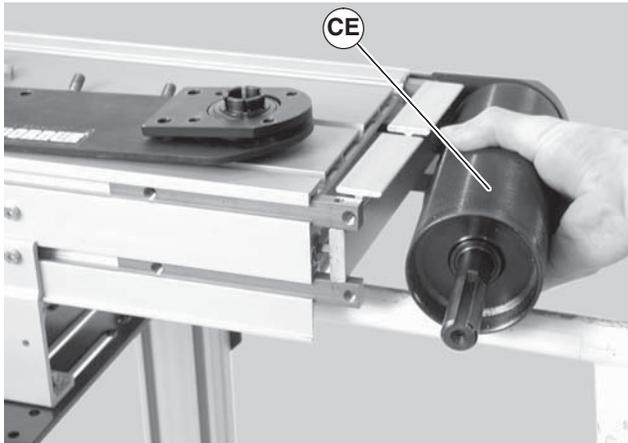

Figure 64
- Slide the drive pulley (Figure 64, item CE) out of the headplate on the opposite side.